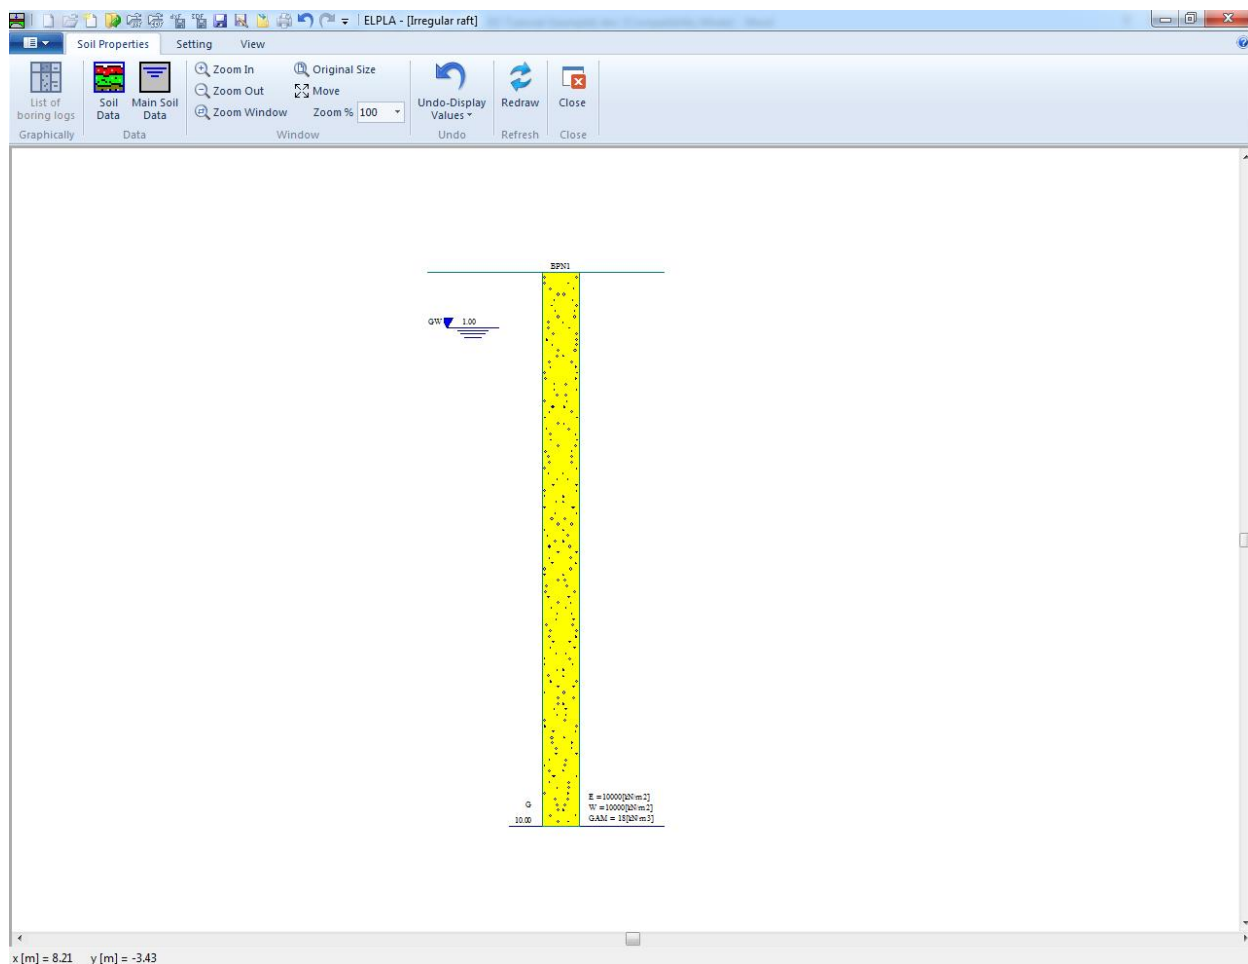
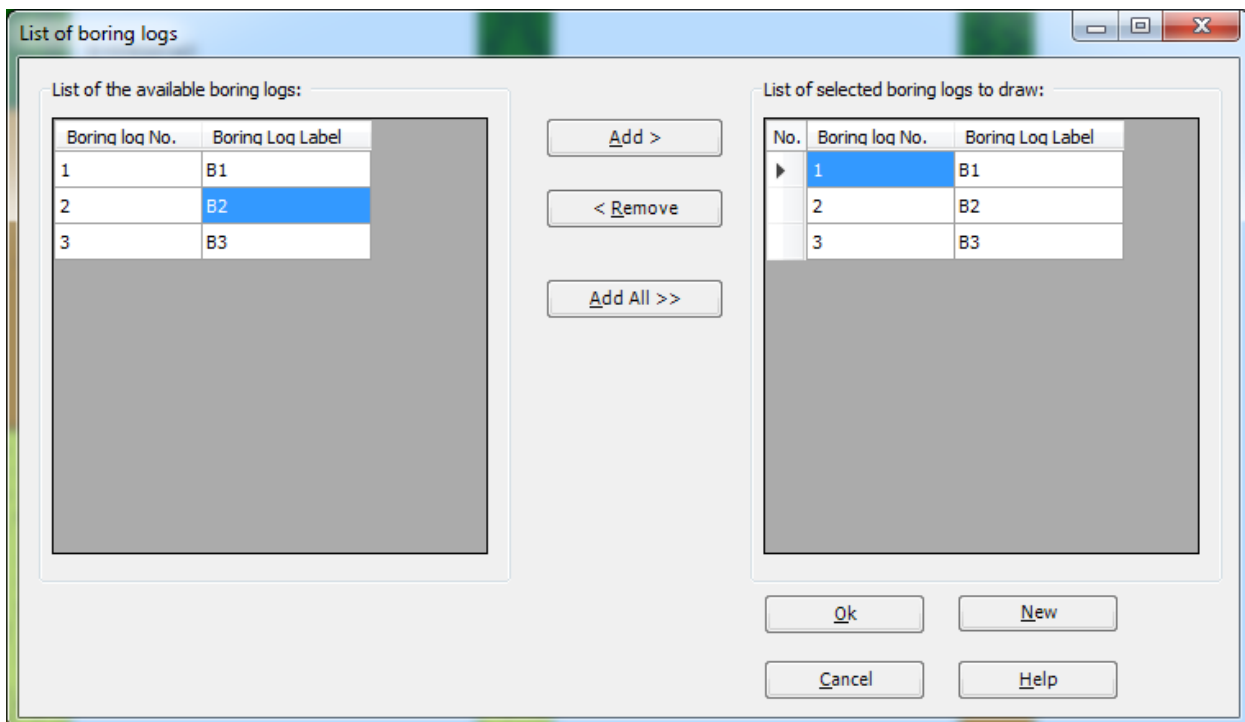

Figure 1.16 "Soil Properties" window with a default-boring log
Figure 1.19 "List of boring logs" list box
To define the soil properties, choose "Soil Properties" command from "Data" Tab. The following "Soil Properties" Window in Figure 1.16 appears with a default-boring log.
In Figure 1.16, soil properties are defined through the "Soil Properties" Tab, which contains the following two commands:
- Choose "Soil Data" command from "Data" menu in the window of Figure 1.16.
To display all boring logs or specified boring logs, choose "List of boring logs" command from "Soil Properties" Tab in Figure 1.16. The following list box in Figure 1.19 appears.
- Select the boring log that is required to be displayed from the list of the available boring logs in Figure 1.19
- Click "OK" button in Figure 1.19. The selected boring logs appear to control or modify the boring data graphically, Figure 1.20